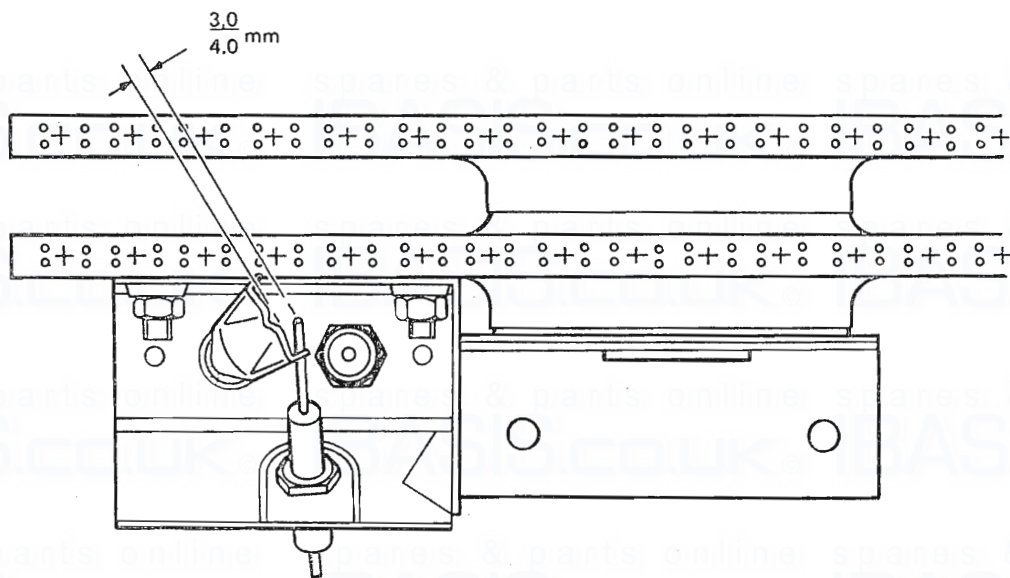

Fig. 25
1. The pilot flame impinges on the sensor head, and that the position of the sensor probe, relative to the pilot burner and the main burner, is as shown by Fig. 25.
Check that the spark gap is as given in Fig. 25.